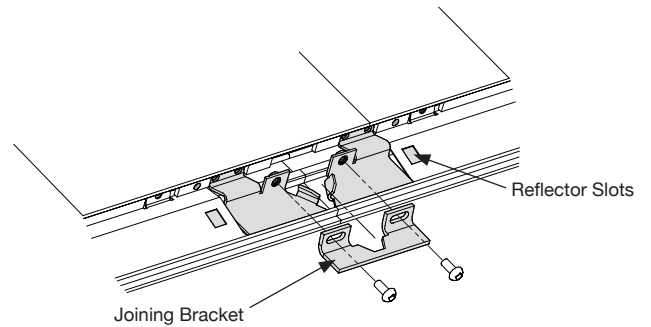

Fig. 2 - Continuous Run - Bottom Bracket
- From the bottom of the fixture, slide the joining bracket onto the two flanges on the bottom brackets and tighten using two #6-32 screws (Fig. 2) until segments are in firm contact.